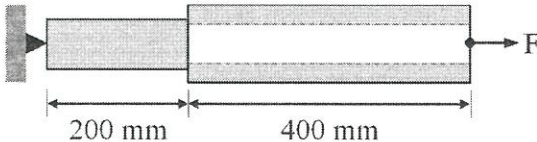
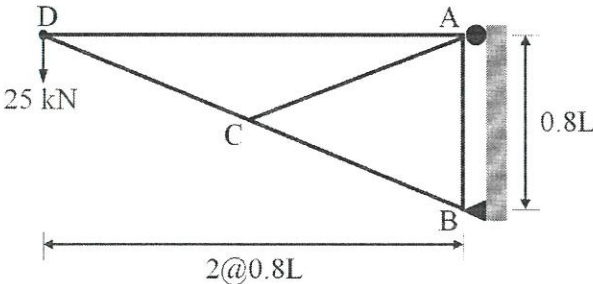

FIGURE Q1
FIGURE Q2
- (b) **Figure Q1** shows two rods that are welded together. The left rod is solid stainless steel with a diameter of 21 mm. Meanwhile, the right rod is a high-carbon tube with inner and outer radii of 9 mm and 15 mm, respectively.
- (ii) Describe **TWO (2)** consequences that may appear if the mesh element is refined to a smaller size. (4 marks)
- (b) **Figure Q2** shows a cantilever truss with a total span of 1040 mm. The top and bottom chords are designed with SHS 60×60×5.0, while the web and vertical members use SHS 60×60×2.5. The cantilever truss is horizontally restrained at A and pinned at B. A nodal load of 25 kN is imposed at D.